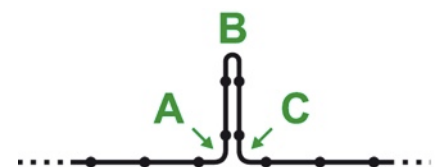

Fig 10
Step 93: Now fold the mesh along line B sharply back down by 180° and forwards again at line C by 90°. The emerging shape should look like the one in Fig 10. This is one of the rails for the boiler.